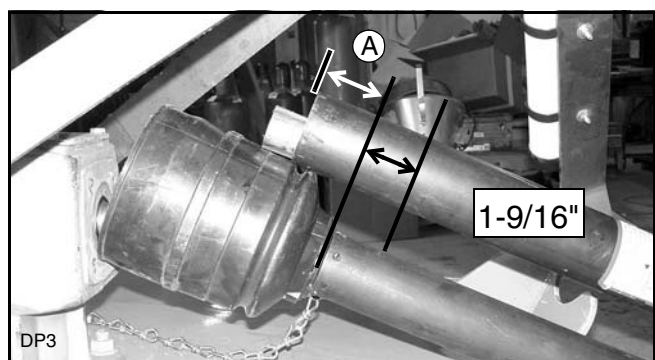

Figure 5. Determine Shield Length
3. Measure from the end of the upper shield to the base of the bell on the lower shield (A). Add 1-9/16" to dimension (A). See Figure 5.